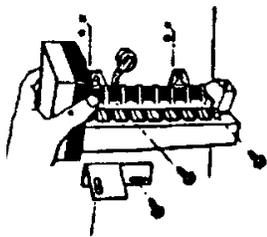

FIG. 1
2. Remove defective ice maker from freezer. The ice maker may be held in place by three screws (Figure 1) or by two clips and one screw (Figure 2).